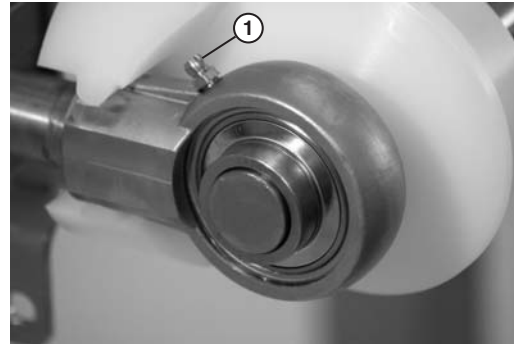

Figure 54
1. Add grease to the bearing using the zerk fitting (Figure 54, item 1) on the exterior of the bearing shaft assembly.